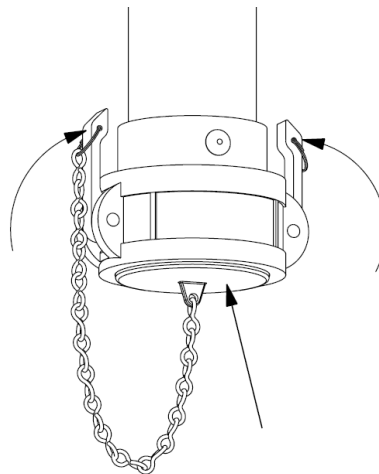

Figure 6-24: Drop line plug installation
7. Install and secure the plug into the drop line coupler, reference **Figure 6-24**.